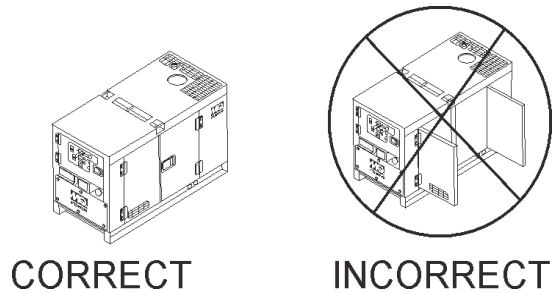

Figure 46. Engine Enclosure Doors
3. Close all engine enclosure doors (Figure 46).